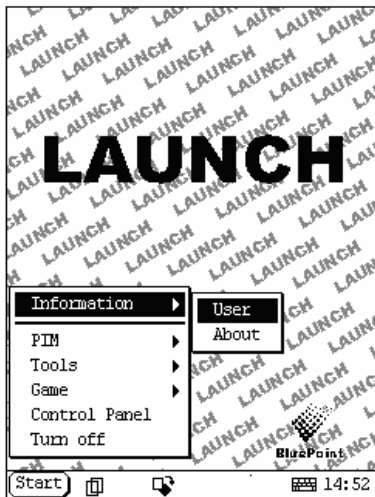

Figure 4-46
- 3) Select 'User' in the pop-up list to open the User Information interface. (See Figure 4-46)